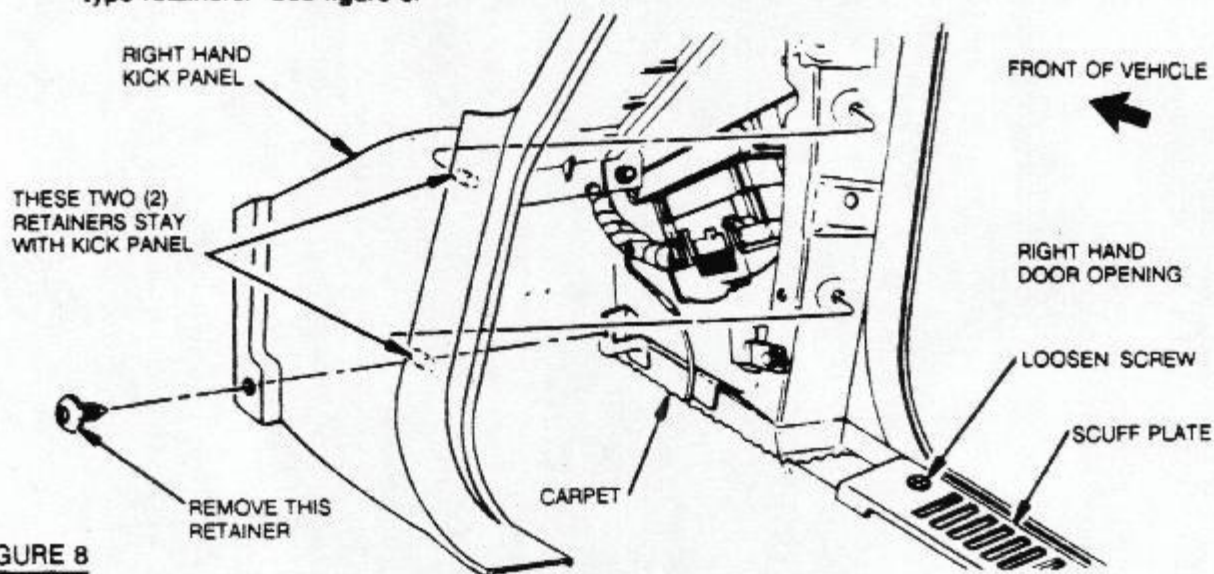

FIGURE 8
STEP 11 Inside the passenger compartment, bottom of right hand door opening, loosen the forward screw of the scuff plate. Remove the right side kick panel which is held in place by three plastic push type retainers. See figure 8.